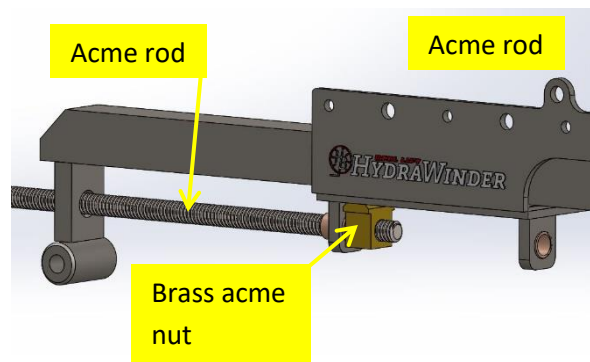

Figure 7
9. Thread the acme rod through the sliding mechanism, through the long bronze bushing and thread the brass acme nut onto the acme rod next to the bushing. **Figure 7**